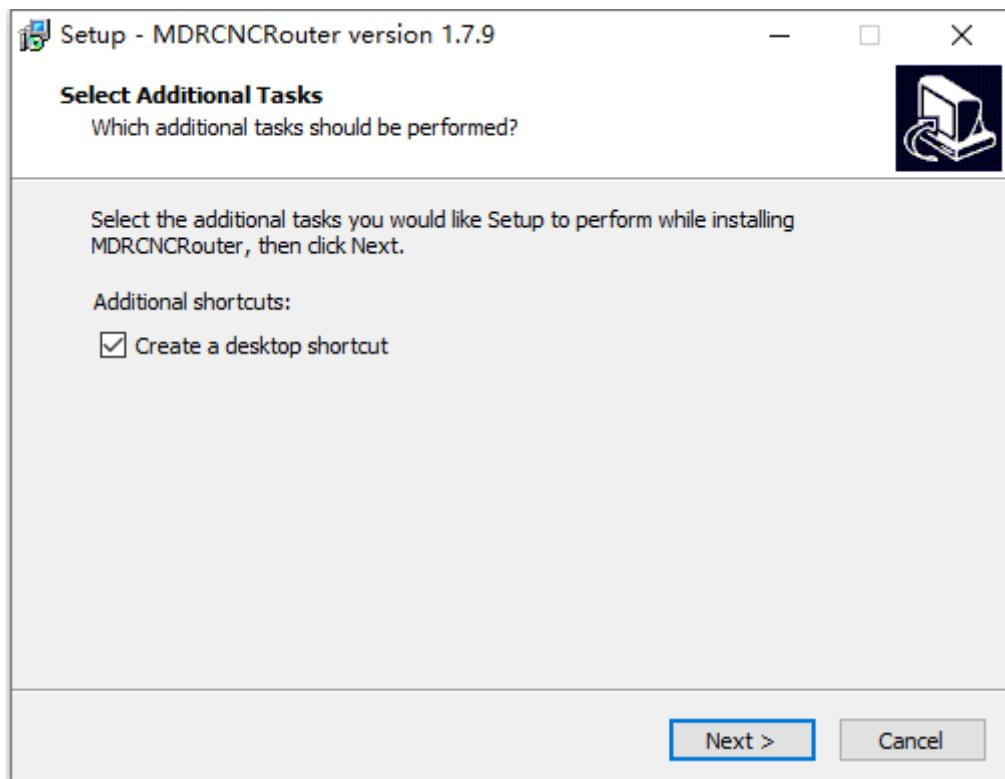

Figure 2.2-3
(4) Enter your password and click **Next**. The installer will pop up the installation target location prompt dialog box.
(5) Click Next. The installer enters the Select Additional Tasks dialog box. In this dialog box, you can choose whether to create a desktop shortcut. The installer is created by default. Users can click to uncheck and do not create shortcuts. As shown in Figure 2.2-3: